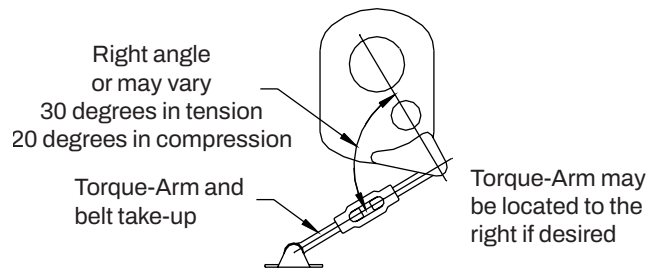

Figure 4 - Angle of Torque-Arm
6. Install Torque-Arm fulcrum on a flat and rigid support so that the torque-arm will be approximately at right angles to the centerline through the driven shaft and the torque arm anchor screw (see Figure 4). Make sure that there is sufficient take-up in the turnbuckle for belt tension adjustment when using V-belt drive.